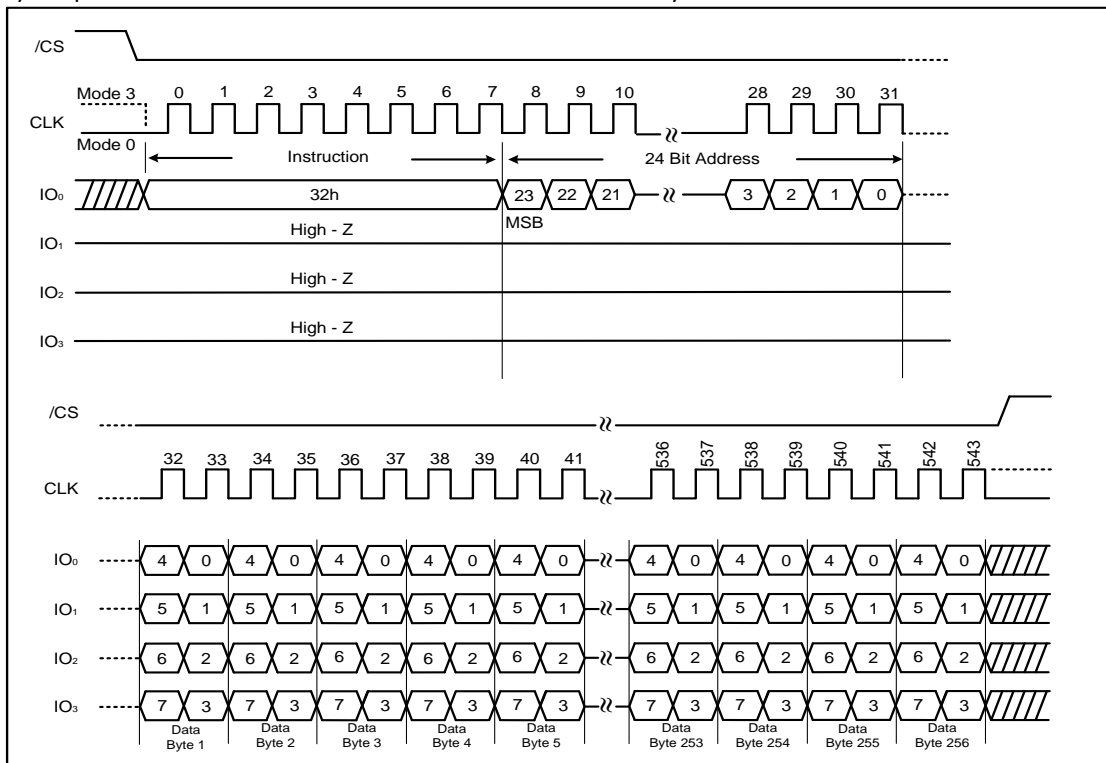

Figure 27a. Quad Input Page Program Instruction (SPI Mode)
To use Quad Input Page Program the Quad Enable (QE) bit in Status Register-2 must be set to 1. A Write Enable instruction must be executed before the device will accept the Quad Input Page Program instruction (Status Register-1, WEL=1). The instruction is initiated by driving the /CS pin low then shifting the instruction code “32h” followed by a 24-bit address (A23-A0) and at least one data byte, into the IO pins. The /CS pin must be held low for the entire length of the instruction while data is being sent to the device. All other functions of Quad Input Page Program are identical to standard Page Program. The Quad Input Page Program instruction sequence is shown in Figure 27a&27b.